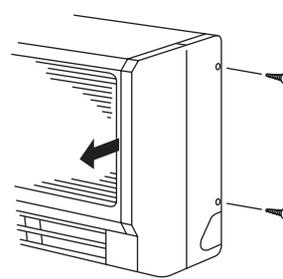

Fig. 3-48
- (a) Remove the 2 screws and slide out the side cover. (Fig. 3-48)
- (a) Remove the 2 screws and take off the side cover. (Fig. 3-48)